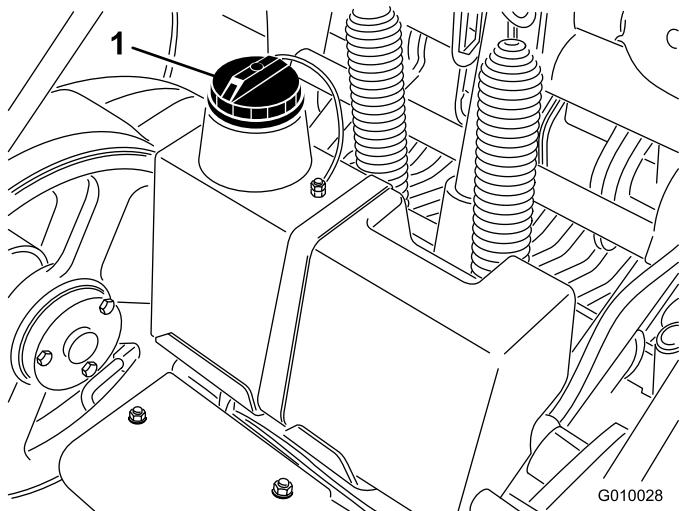

Figure 19
3. Clean area around filler neck and cap of hydraulic tank (Figure 19). Remove cap from filler neck.